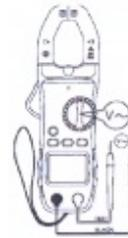

Fig.4
(1) Turn the rotary function switch to V_{AC} position. Plug the red test lead into "VΩ" terminal and the black test lead into COM terminal.
(2) Touch the test leads to the test points. Read measurement values from the LCD.
(3) Press Hz/DUTY key to display frequency and duty ratio value. (fig.4)